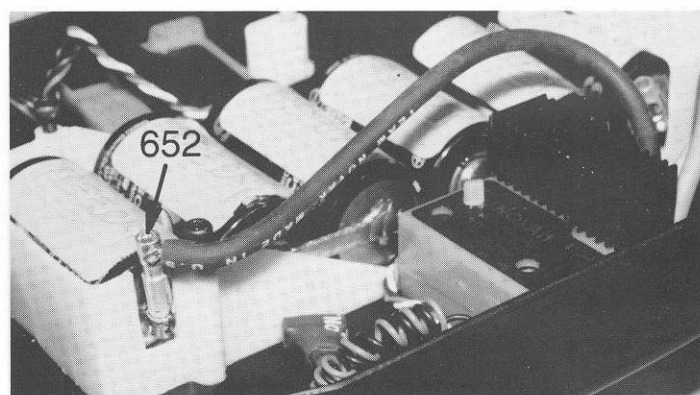

Fig. 183
□ **Figs. 183 & 184** Now we are going to hook up your speed control battery leads to our battery pack. We are using the new Reedy #652 power connector pins in our example. These pins make for an easy battery connect and disconnect system and have almost no power loss. (1) We will start with the positive terminal. Install the battery into the battery cup (make sure the positive connector is in the back left corner). (2) Now push the pins into the pin sockets. We are doing this so we can measure the wire lengths before we cut them. Make sure you leave a little slack in the wires so that they will not be hard to push in or pull out of the sockets. (3) Now solder the negative wire to the negative pin connector and the positive wire to the positive pin connector. (4) Because the speed control we are using is a three wire system, after you cut the positive lead wire you must solder one end of the piece you cut off into the other side of the positive pin so that it can be used to go to the motor positive terminal.